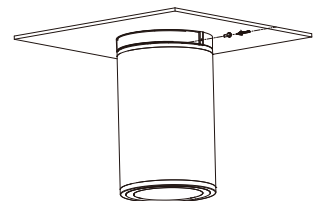

Fig 5
5. Attach the fixing screws. (Fig 5)